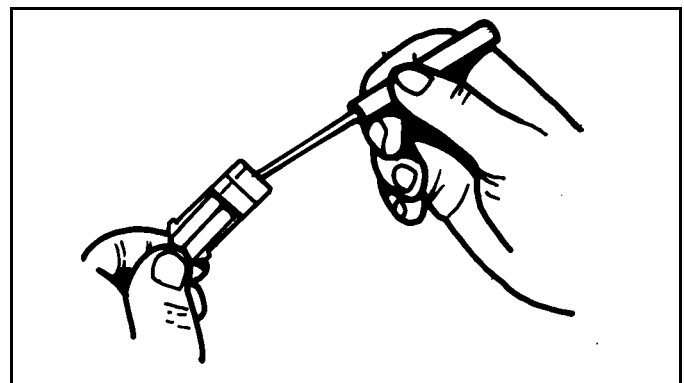

Figure 1-6
3. Use Terminal Removal Tool (#96102499) to remove contact from connector body. (See Figure 1-6)